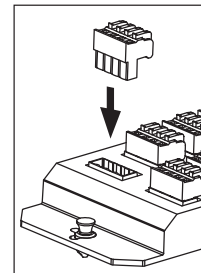

Figure 4
7. Plug the connectors into the VCS HUB8 as shown. See **Figure 4**. The single connector plug at lower right is the input from the amplifier or receiver. The other connector plugs are the outputs, each leading to a specific volume control.